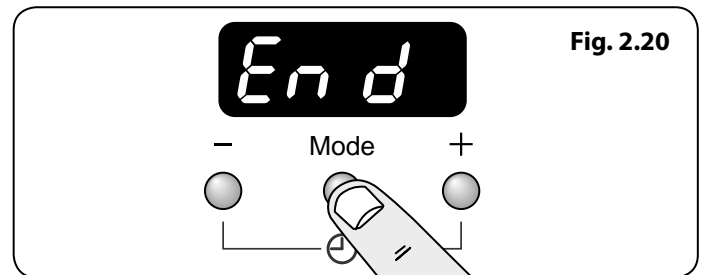

Fig. 2.20
1. Press the mode [Mode] button, until the display flashes 'end' (Fig. 2.20).